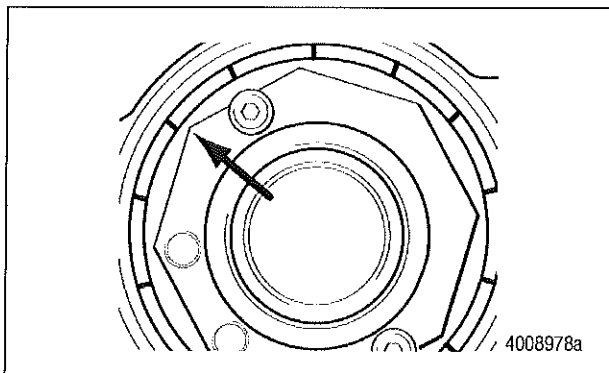

Figure 24
- G. Rotate the nut in a **CLOCKWISE** direction, in the 'tightening' direction, until the corners of the nut align with the **NEXT** nearest mark on the face of the retaining washer. Figure 24.